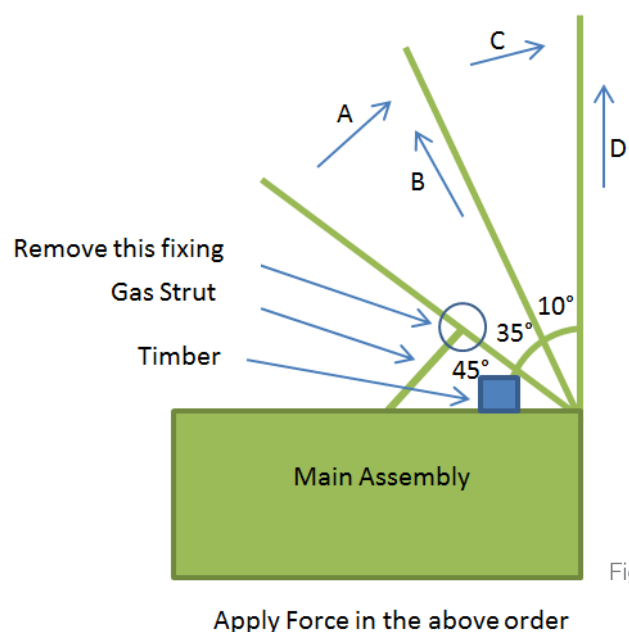

Figure 4
- Place a piece of timber (approx. 4" x 4" x 500 LG.) horizontally across the shorter width of the opening (as illustrated in Figure 4) to prevent the cover slamming shut if dropped. Ensure wooden block is stable and in place before attempting to disconnect gas strut
- One person is to support the cover holding it in place in the 45° position whilst the second person removes the gas struts top fixing that is attaching it to the cover (See Figure 4)
- Once the gas strut is disconnected from the cover the first person can further rotate to cover to a 80° position using two hands to position (A)
- Once in position (A) operator will need to lift the cover in direction (B) as indicated in Figure 4. Once the cover has been lifted the operator will be able to hinge the cover to a 90° position via direction (C)